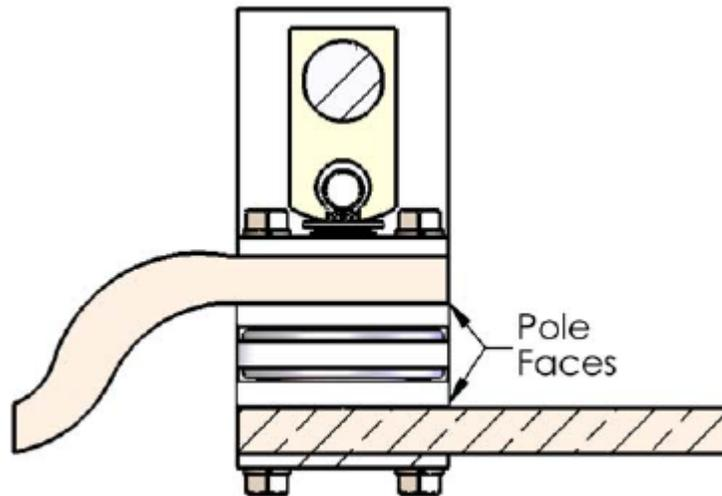

Figure 2.
2.1 If one of several poles (vacuum modules) in a switch has lost vacuum, it will usually operate cooler than the remaining poles. The millivolt drop across the pole faces (see Figure 2) of the bad pole will be higher than the max. mV drops as shown in Table 3.